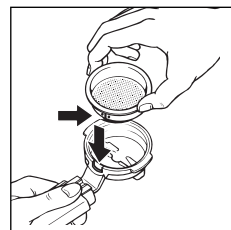

fig. 10
1. After preheating the appliance, the machine is ready to be used. Insert the ground coffee filter with crema enhancer into the filter holder, making sure the tab is correctly inserted into the housing as shown in fig. 10. For appliances with two filters, use the smallest for one coffee and the largest for two coffees.
3. Place the small 1 coffee or pod filter in the filter holder, making sure the projection is correctly inserted in the slot as shown in fig. 10.